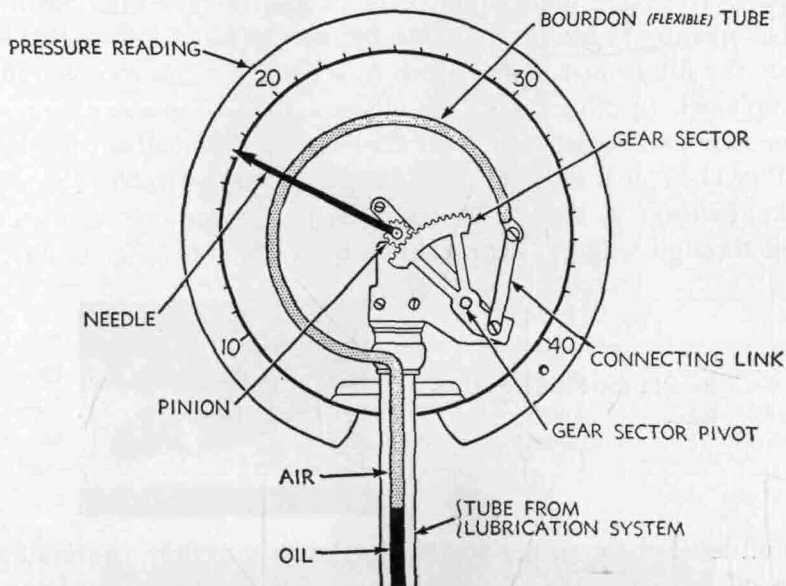

FIG. 11-29. Bourdon tube and linkage to indicating needle used in pressure-expansion oil-pressure indicator.
1. *Pressure expansion.* The pressure-expansion indicator uses a hollow Bourdon (curved) tube that is fastened at one end and free at the other. The oil pressure is applied to the curved tube through an oil line from the engine and causes the tube to straighten out somewhat as pressure increases (Fig. 11-29). This movement is transmitted to a needle by linkage and gears from the end of the tube. The needle moves across the face of a dial and registers the amount of oil pressure.